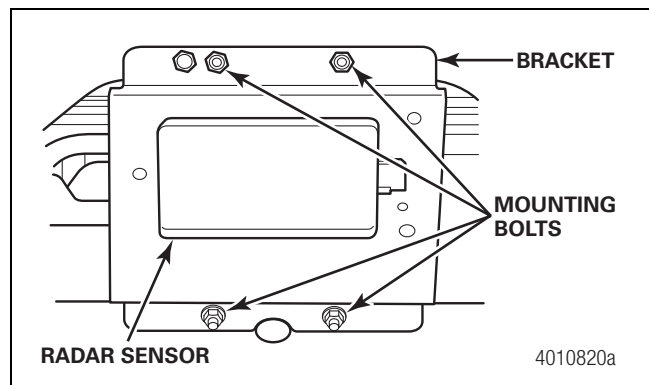

Figure 4
2. Place the new radar sensor and bracket onto the tractor in the position shown in the below figure. Make sure the radar sensor and bracket are mounted with the radar sensor facing outward toward the front of the vehicle. Install the four M8 mounting bolts provided in the kit and dry tighten to 20.2-25.7 ft-lb (27.4-34.8 N•m). Figure 4.